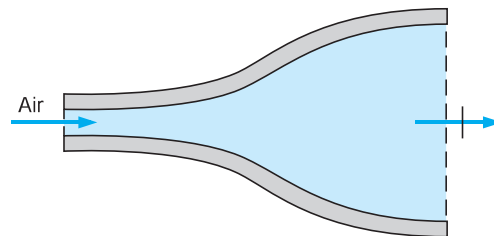

FIGURE P6.28
- 6.28** A diffuser, shown in Fig. P6.28, has air entering at 100 kPa and 300 K with a velocity of 200 m/s. The inlet cross-sectional area of the diffuser is 100 mm². At the exit the area is 860 mm², and the exit velocity is 20 m/s. Determine the exit pressure and temperature of the air.